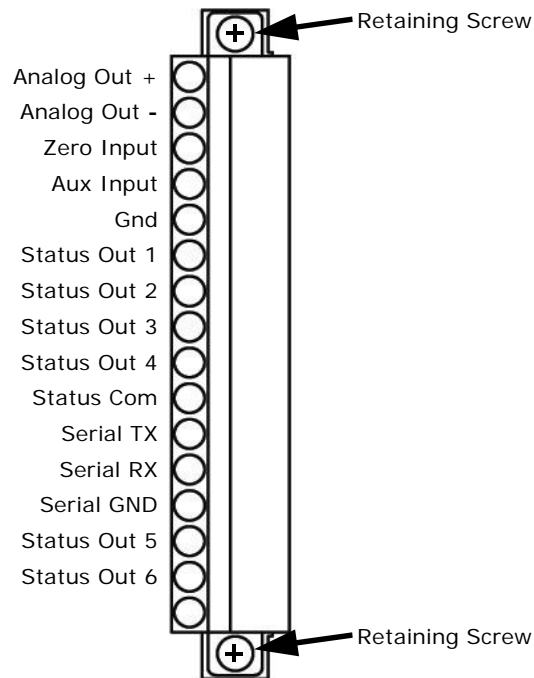

Figure 3-6 Signal I/O Connector Pin Assignments
The analog output requires two connections: **ANALOG +**, the signal line, and **ANALOG-**, the ground connection. See Figure 3-6 for the locations of the **ANALOG OUT +** and **ANALOG OUT-** pins.
- See Figure 3-6 for pin locations of the these output lines on the monitor's 16-pin I/O connector
Two digital control inputs are also available for use on the 460M. The control inputs are used for remote control of the 460M by a device such as a PLC. They are labeled **ZERO INPUT** and **AUX INPUT** (see Figure 3-6).
The following three pins are provided on the I/O connector for serial communications (see Figure 3-6).